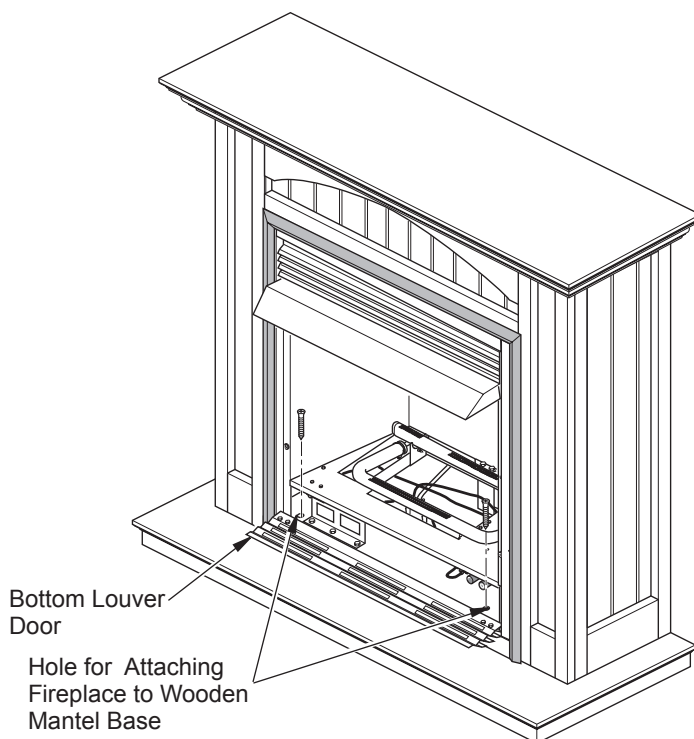

Figure 8 - Attaching Fireplace to Mantel Base
6. Lower bottom louver door. Use two 3" wood screws provided in hardware package and attach fireplace base to wooden base (see Figure 8). Close louver door.